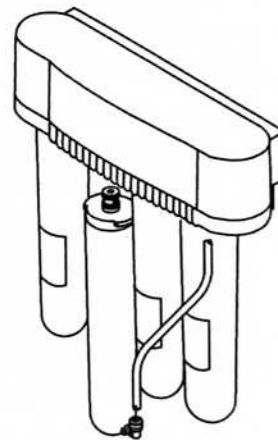

Figure 7
- 1) Close the feedwater valve. Lift up on the faucet handle to drain the tank. Wait five (5) minutes for the filtration assembly to completely depressurize.
- 2) Make sure that there is some slack in the red SFC tubing connected to the fitting at the bottom of the RO membrane cartridge. Twist the cartridge 1/4 turn to the left so that the tubing connection is accessible. (See Fig. 7)